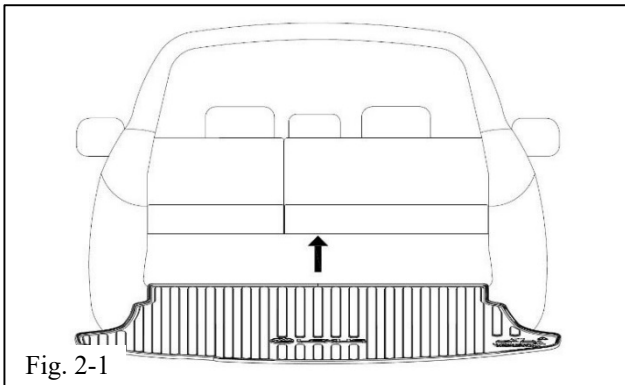

Fig. 2-1
- (a) Place the cargo tray in the trunk area with the logo towards the rear of the vehicle and facing up (Fig. 2-1).